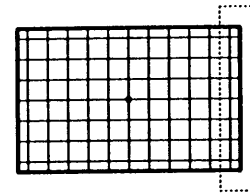

FIG. 10
20. RK56 (PIN) controls the outer most line on the right hand side. Adjust RK56 to eliminate any bowing and make the blue line as parallel as possible to the green. See Fig. 10.